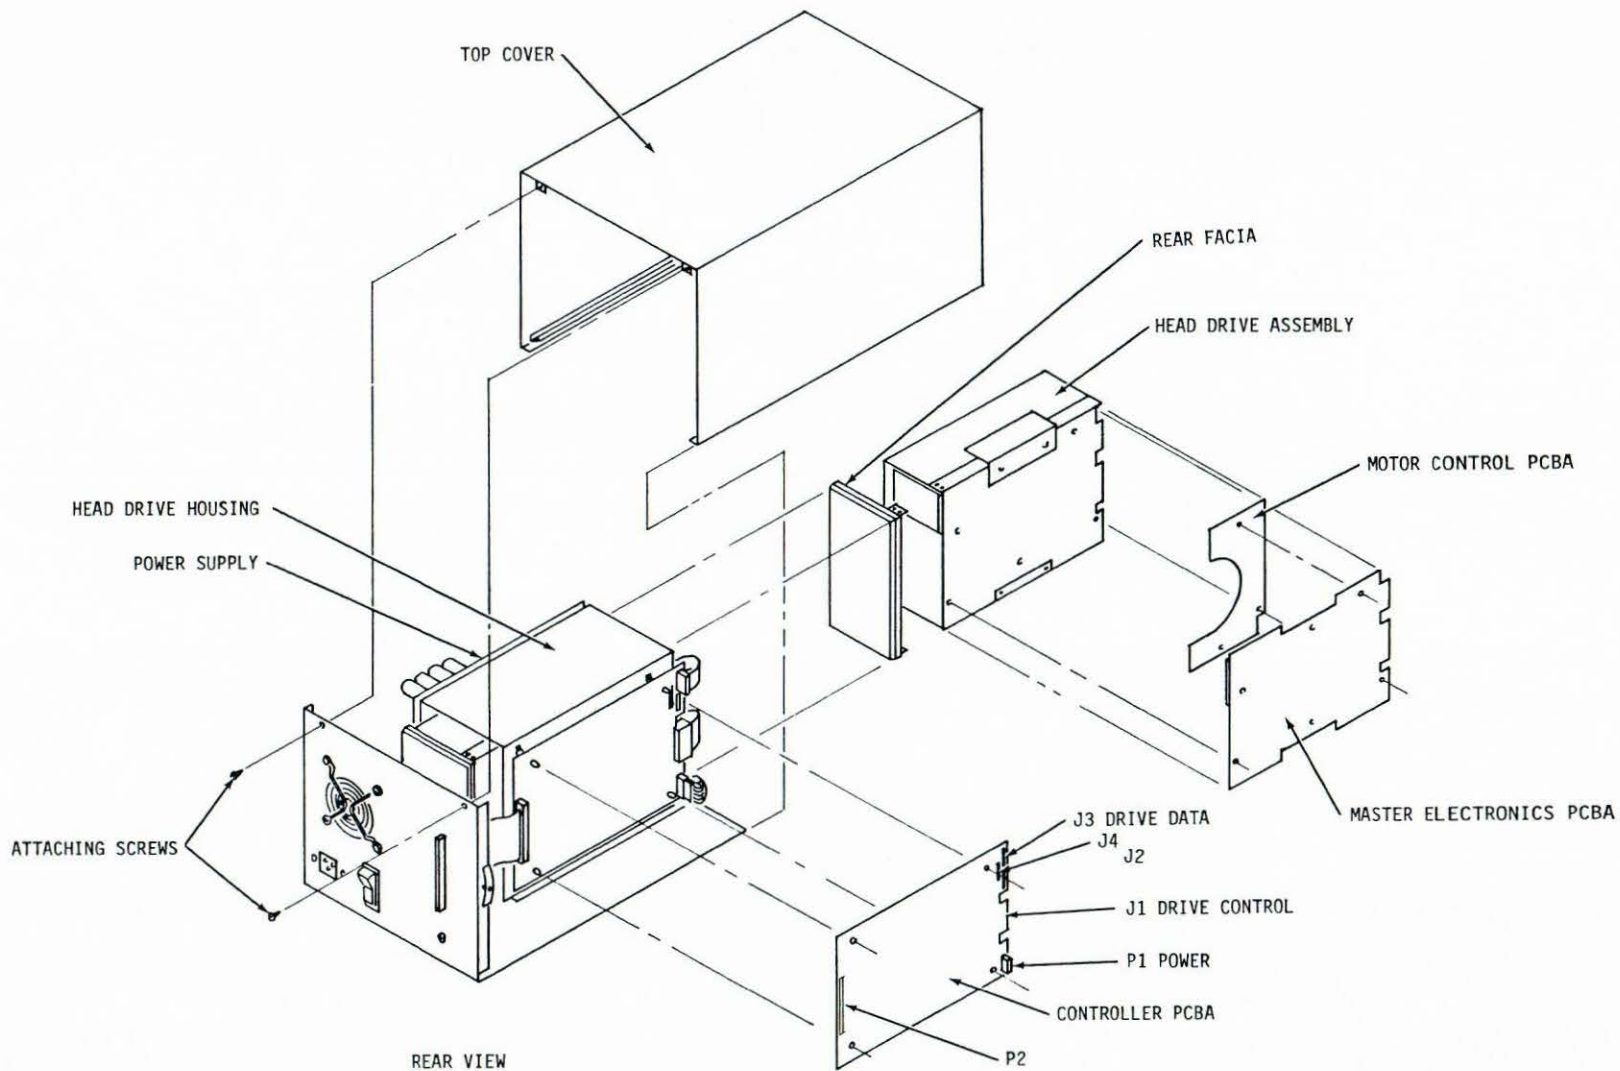

Figure 7-21. Disk Drive Disassembly
2. Remove two (2) screws on the rear of the Disk Assembly chassis. See figure 7-21 (A). The top cover can now be removed by sliding the cover forward from the chassis track.
4. Replace two (2) screws from the rear of the chassis. See figure 7-21 (A).
2. Remove the four cable connection from the controller board (P2 Host, P1 Power, J1 Drive Control, and J3 Drive Data). See figure 7-21 (B).